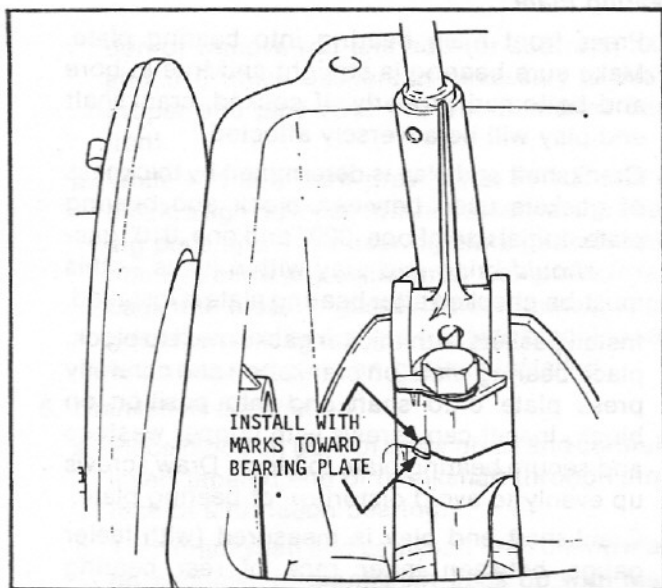

Figure 56
- b. It is important that marks on connecting rod and cap line up and face flywheel end of engine. (See Figure 56).